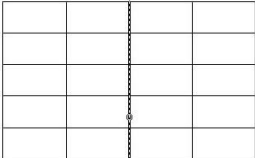

Fig 19
- 2. Specify the line of the table for dragging. (Fig19)